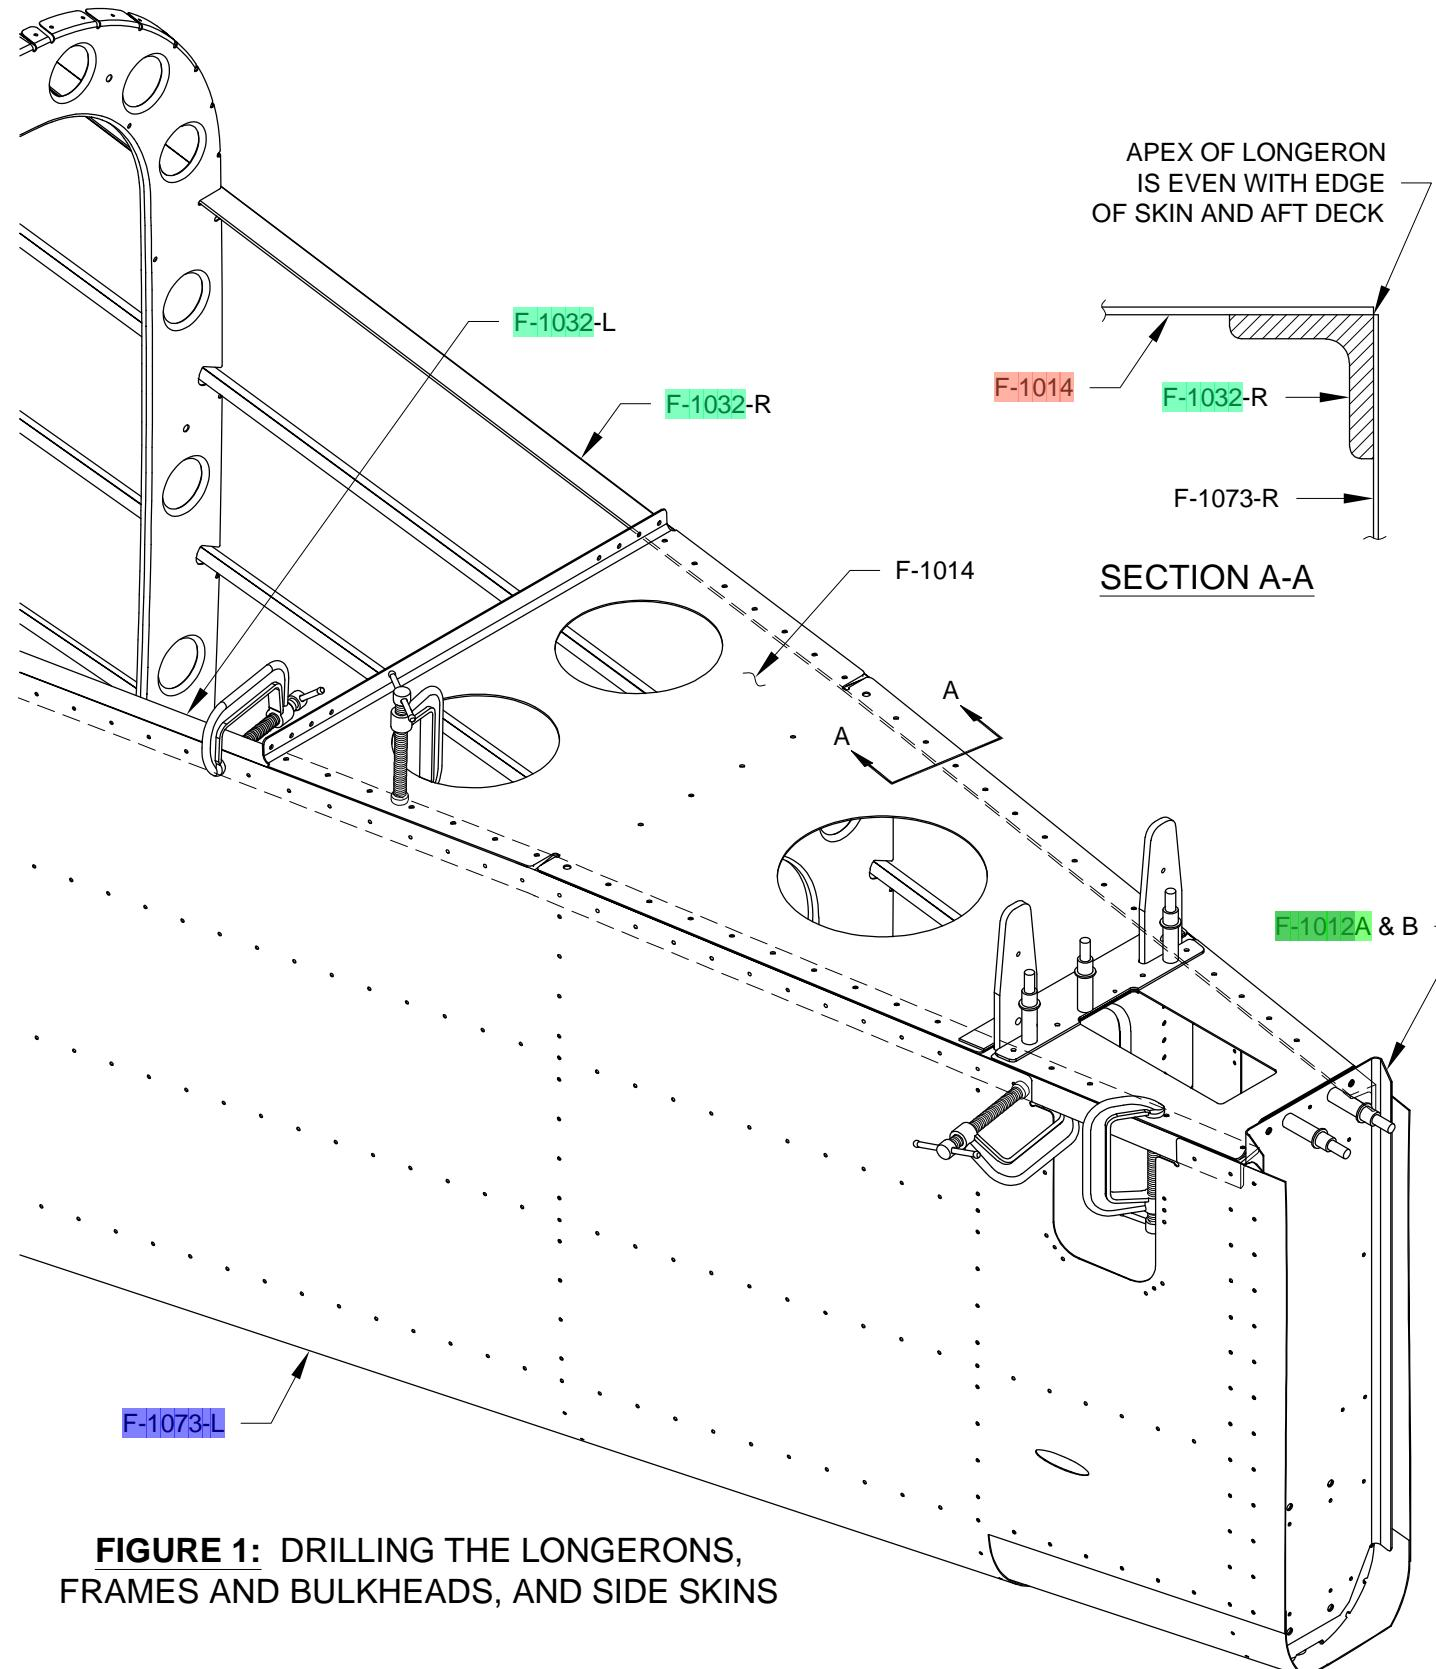

**FIGURE 3: CLECOING THE
Step 4: Uncleco the F-1032-L & -R Side Skins enough to insert the F-1032-L & -R Longerons into the notches of the frames and bulkheads as shown in Figure 3. The bend in the longerons should be located at the break in the side skin edges, and the aft end of the longerons should be very close to touching the web of the F-1012A Bulkhead. If the longerons don't fit into the notches in the sides of the F-1007 & -1008 Frames, the notches can be filed slightly until the longerons do fit.
Step 5: Center the F-1010B Spacer on the F-1010A Horizontal Stabilizer Attachment Angle as shown in Figure 3. Temporarily secure the spacer to the angle with carpet tape (thin double sticky-back tape that can be picked up at almost any hardware store).